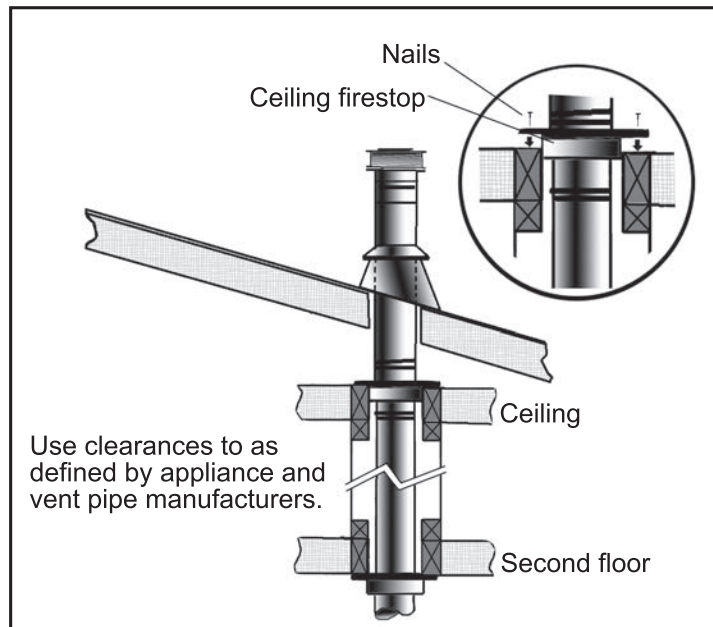

**Figure 60: Use of Wall Straps.**
- (1) If an offset is necessary in the attic to avoid obstructions, it is important to support the vent pipe every 3 feet (914 mm), to avoid excessive stress on the elbows, and possible separation. Wall straps are available for this purpose (see Figure 60).
- (2) When ever possible, use 45° degree elbows instead of 90° degree elbows. The 45° degree elbow offers less restriction to the flow of flue gases and intake air.